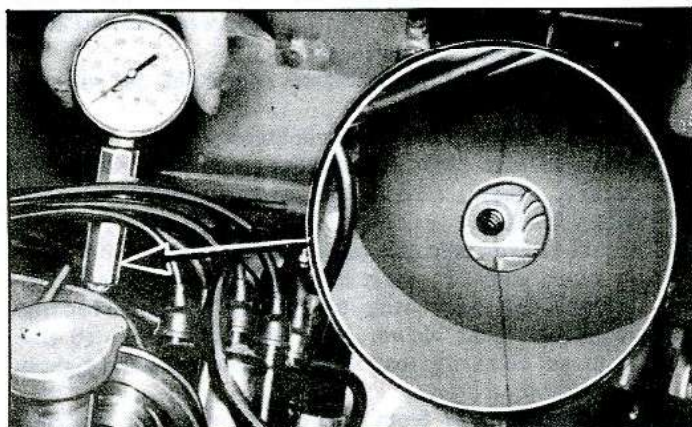

Fig. 1—Checking Compression
2. Hook up starter remote control cable and insert compression gauge firmly in spark plug port (fig. 1).